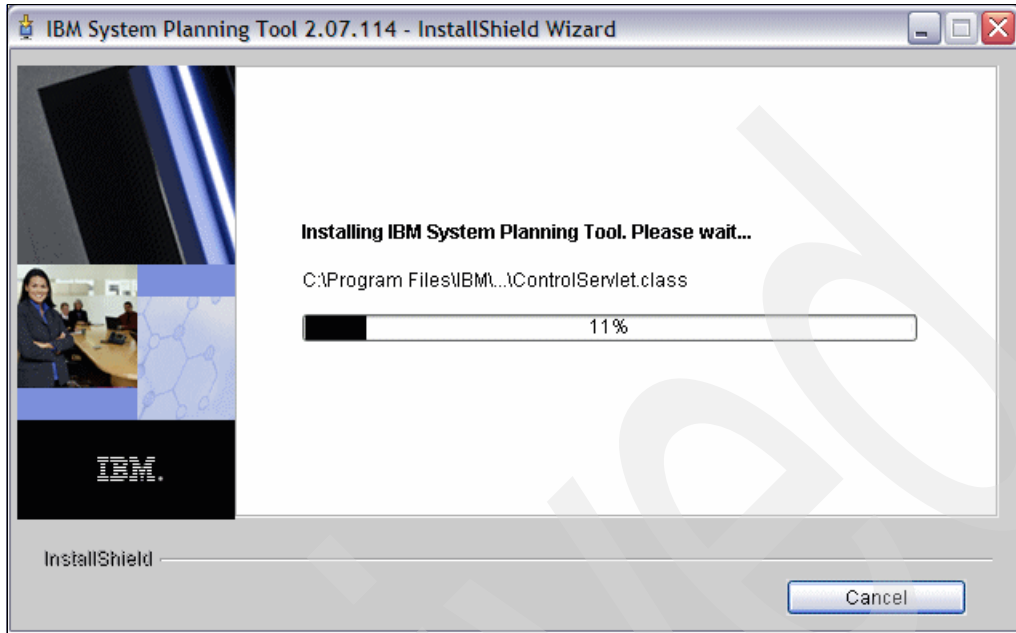
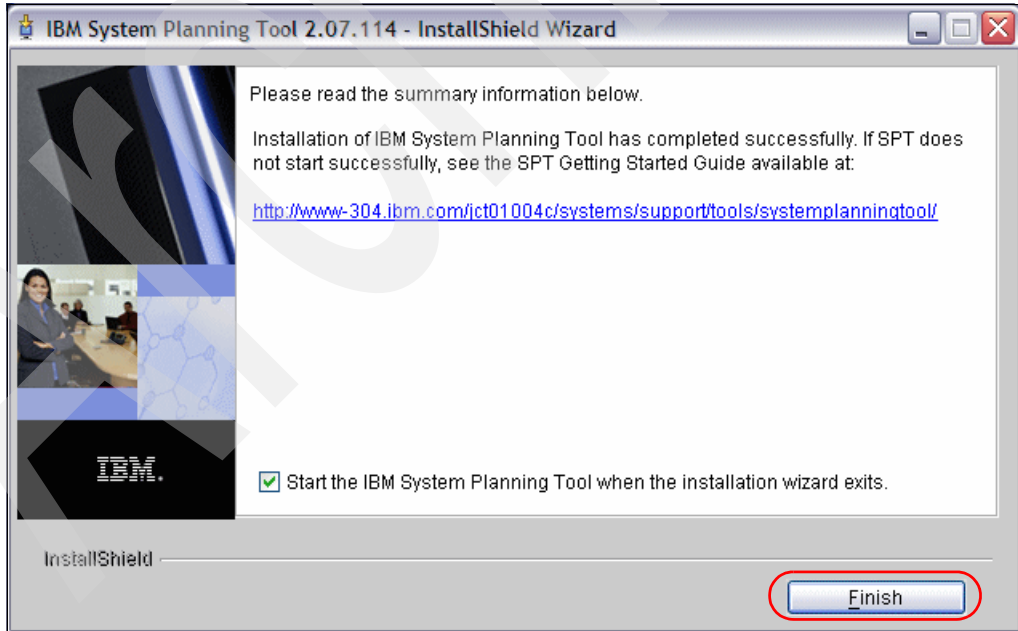

Figure A-17 Extracting and copying files
Figure A-21 Patch installation is finished
During the installation process, you will see the various files being extracted and copied into the installation folder, as shown in Figure A-17.
- The same progress bar as for the setup file is displayed when extracting and copying the files (see Figure A-17 on page 199). The same final display leaves the choice to immediately start System Planning Tool Version 2 when clicking **Finish**, as you can see in the Figure A-21.